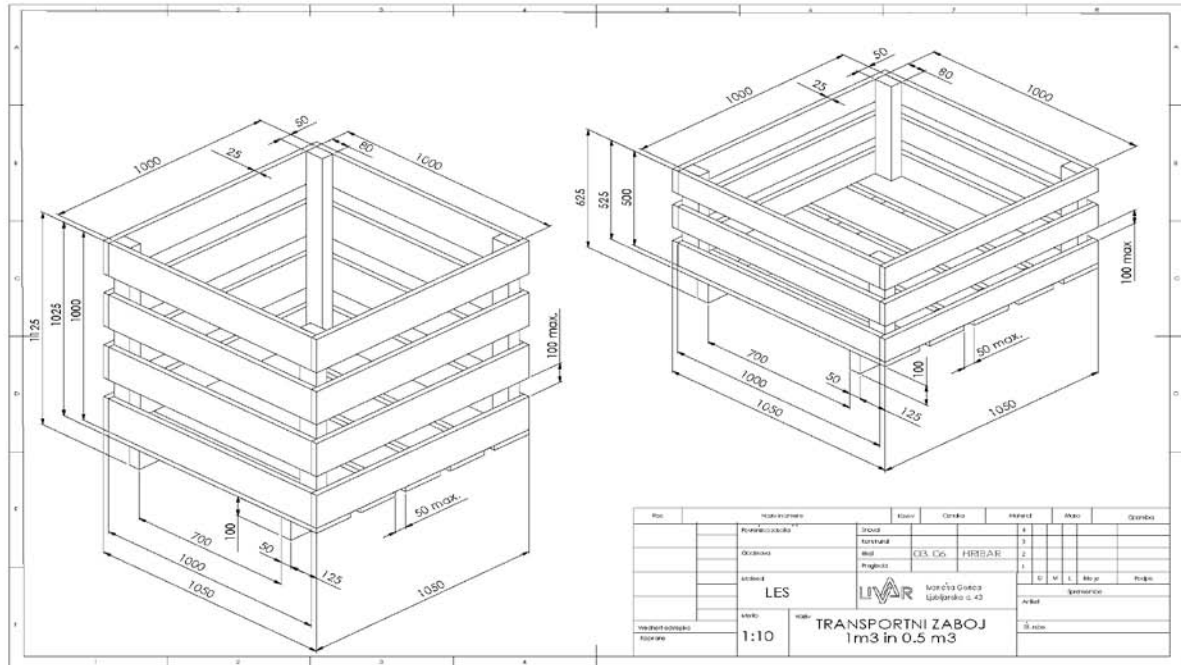

Figure 1: Livar d.d. transport crate (Note: The drawing and number of battens are for informational purposes only.)
Basically, wooden boxes must be in accordance with Figure 1 below: Livar d.d. transport crate
- 3 nails per each side of the crate are used. Usually, they are nailed 3-5 cm apart, according to Figure 1: Livar d.d. transport crate, i.e. $3 \times 4 \times 2 \times 4 = 96$ nails,
- 3 nails per each side of the crate are used. Usually, they are nailed 3-5 cm apart, according to Figure 1: Livar d.d. transport crate, i.e. $3 \times 3 \times 2 \times 4 = 72$ nails,
Wooden boxes will be sampled (2 crates from every shipment) according to Figure 1: Livar d.d. transport box
All dimensions are indicated in Figure 1: Livar d.d. transport box.